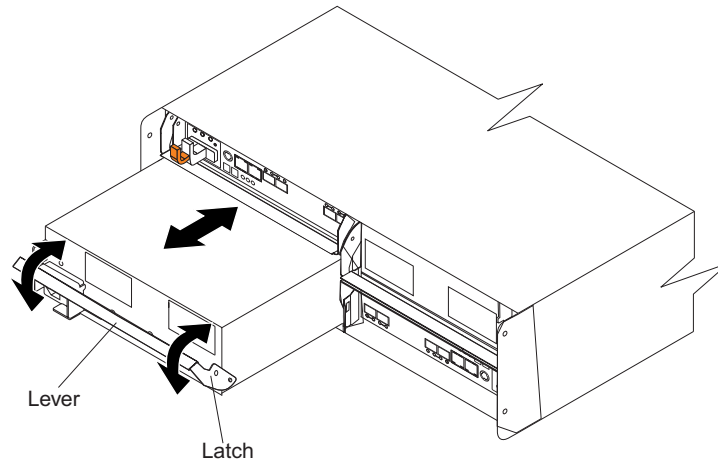

Figure 16. Removing a power supply and fan unit
2. Slowly pull the lever away from the chassis to remove the power supply and fan unit, as shown in Figure 16 on page 39.